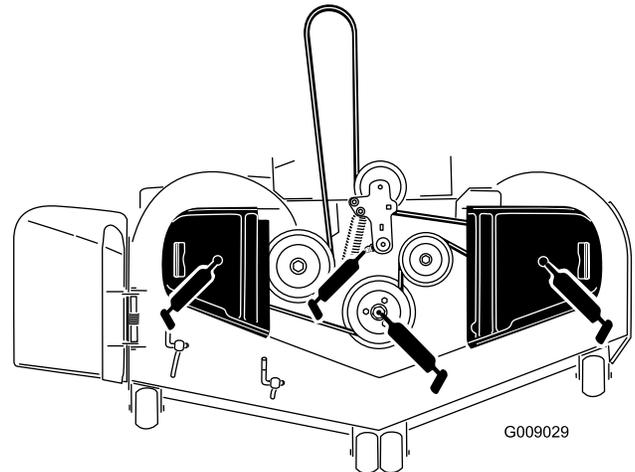

Figure 46
5. Grease the mower-deck idler-pulley pivot until grease comes out the bottom (Figure 46).
6. Grease the 3 spindle bearings until grease comes out the lower seals (Figure 46).
- Grease the drive-belt idler arm (Figure 46).